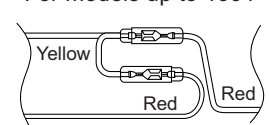

Figure 1
1. For VW/Audi/Opel/Vauxhall vehicles, change the position of fuse installation as shown on the diagram. (Figure 1)